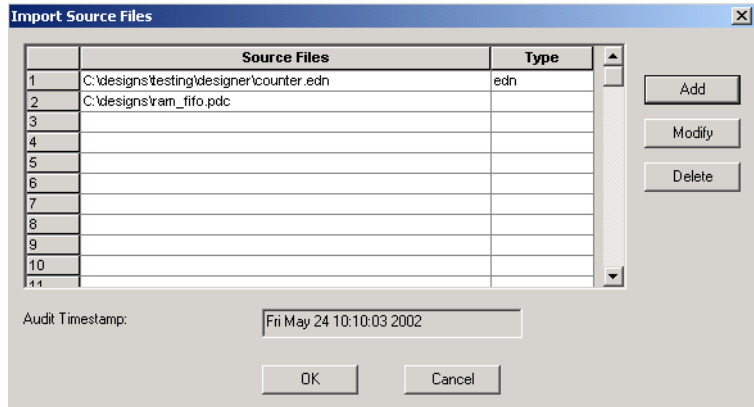

Figure 7-4. Import Source Files Dialog Box with PDC File Added
3. **Select the file you wish to add and click *Import*.** The file is added to the Import Source Files dialog box, as shown in Figure 7-4.